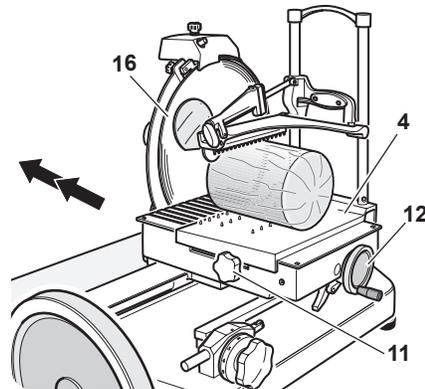

Figure 12-3
- Use the product holder operating handwheel (12) or the fast forward knob (11) to move product holder (4) close to knife blade (16) (Figure 12-3.)